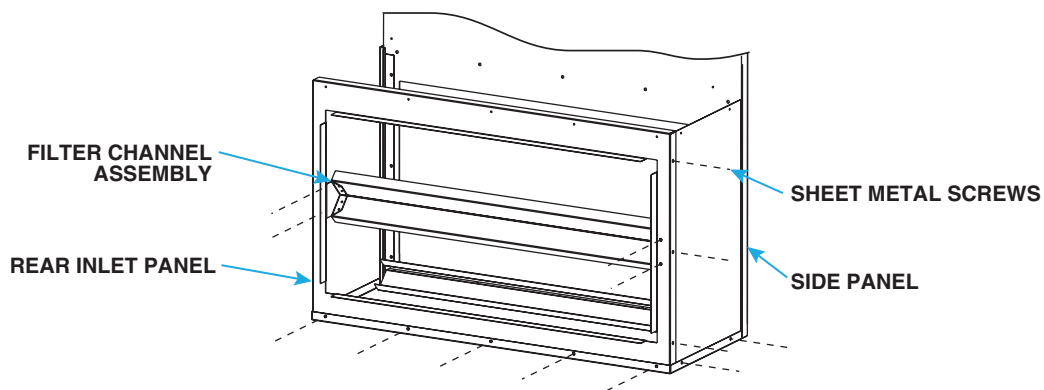

Figure 17. Install Side Panel, Rear Inlet Panel, and Filter Channel Assembly
2. Install side panel, rear inlet panel, and filter channel assembly as shown in **Figure 17**: